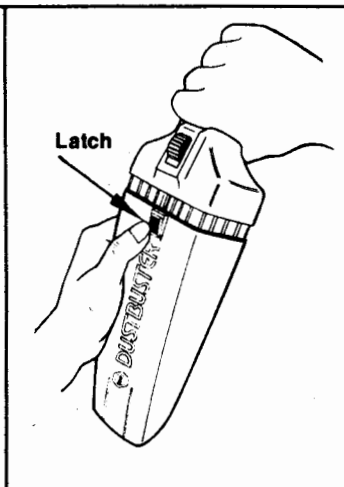

Fig. 7
1. To remove dirt from the collector bowl, hold unit as shown in Figure 7.